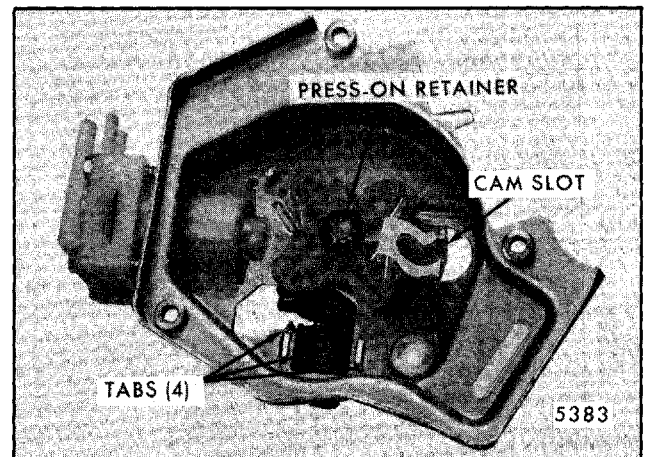

Fig. 2-128-Removing Four Lobe Cam
4. Chisel off the four bent-over tabs that secure the coil mounting bracket to the base (Fig. 2-128). Remove relay coil and terminal board assembly. To mount a replacement relay assembly, hold it securely against the base mounting surface and bend locking tabs over.